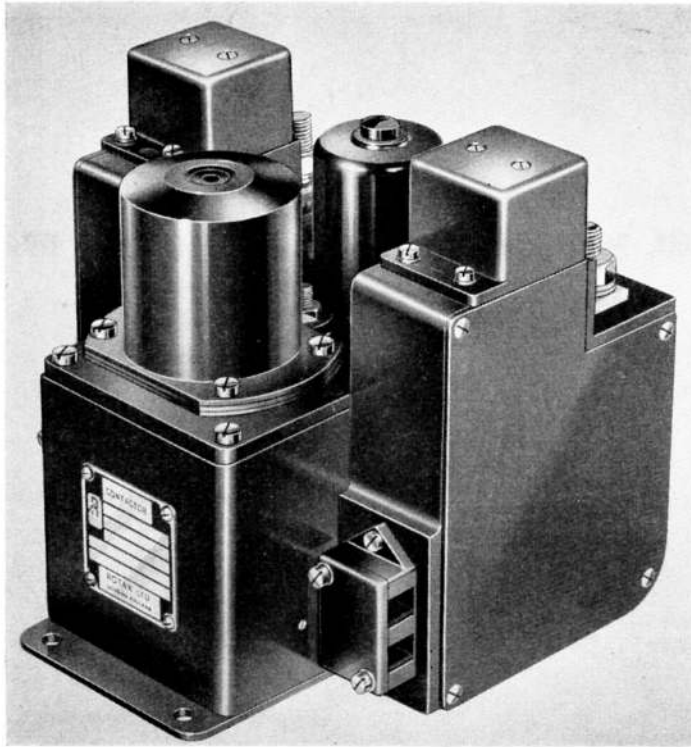

Fig. 1. Type 15A, No. 3 switch
1. This unit (*fig. 1 and 2*) is included in the series of magnetically operated single pole contactors described in A.P.4343, Vol. 1, Sect. 11, Chap. 17, and is designed for the remote switching of 112 volt circuits whose current ratings do not exceed 80 amperes. The switch is mechanically latched in, and is therefore suitable for applications where continuous rating is required.